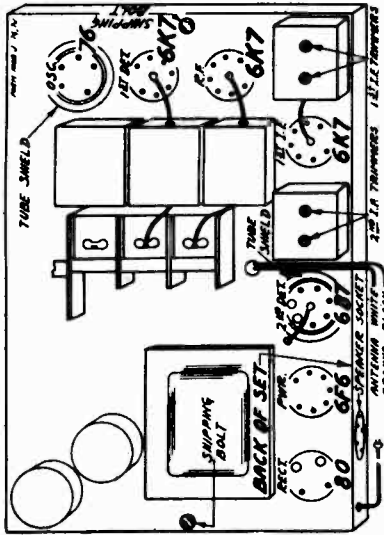

Fig. 5—Location of Tubes
- Then adjust the four I.F. trimmers until maximum output is obtained. The adjusting screws for these condensers are reached from the top of the chassis, and the location is shown in Fig. 5.